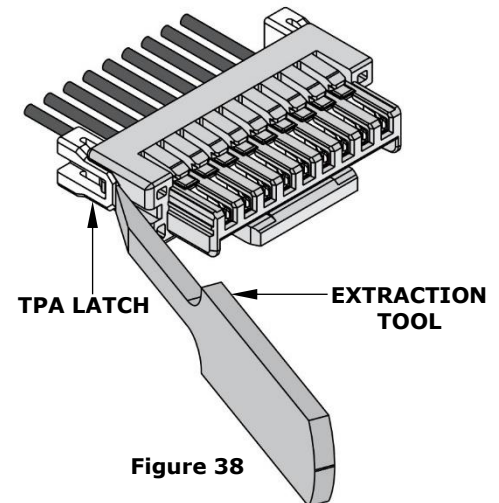

Figure 38
2. Position the extraction tool as shown in Figure 38.